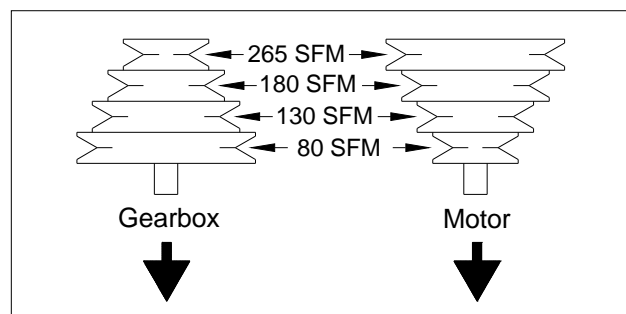

Figure 7: Belt position/speed relationships
6. Put the V-belt in the pulley position for the speed you require --- refer to *Figure 7* for belt locations and speeds available.